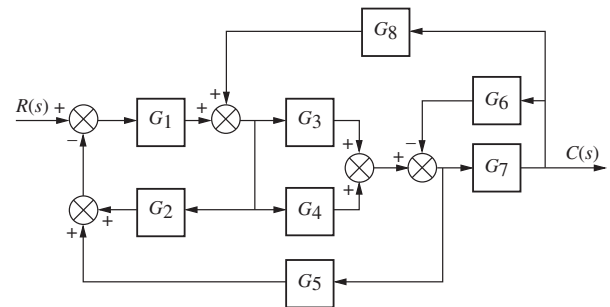

FIGURE I-5.3
3. Find the transfer function,  $T(s) = C(s)/R(s)$ , for the system shown in Figure I-5.3. Use the following methods: